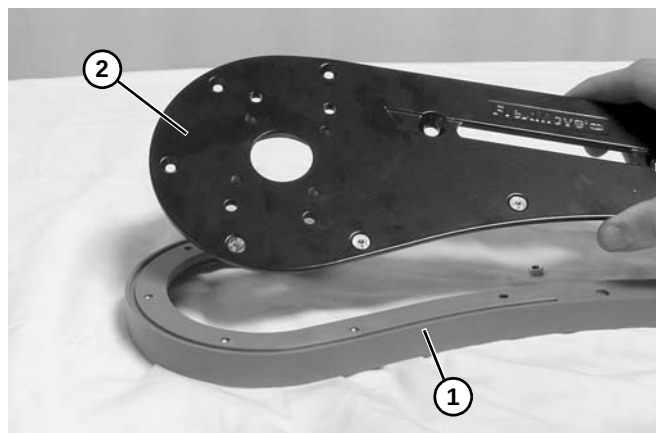

Figure 81
6. Remove upper retaining guide (**Figure 81, item 1**) from drive plate (**Figure 81, item 2**).